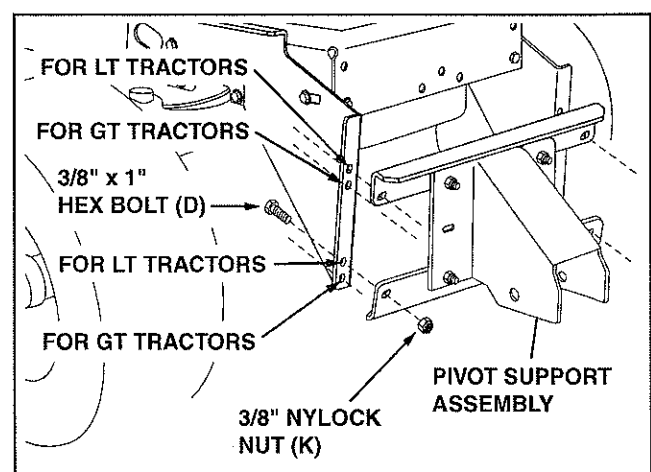

FIGURE 11
21. Assemble the pivot support assembly to the topmost set of holes in the hanger brackets (LT Tractors) or second from top set of holes (GT Tractors) using four 3/8" x 1" hex bolts (D) and 3/8" nylock nuts (K). **Do not tighten yet.** See figure 11.